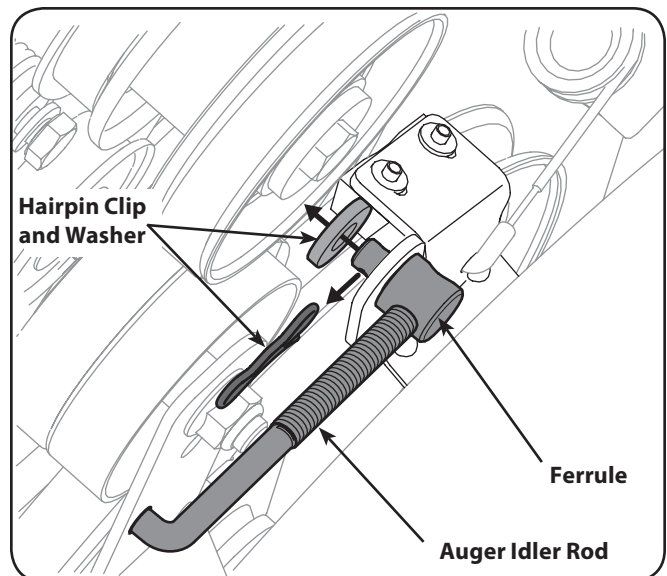

Figure 7-4
1. Remove the bow tie clip and flat washer from the ferrule in order to disconnect the auger idler rod from the brake bracket assembly. See Figure 7-4.